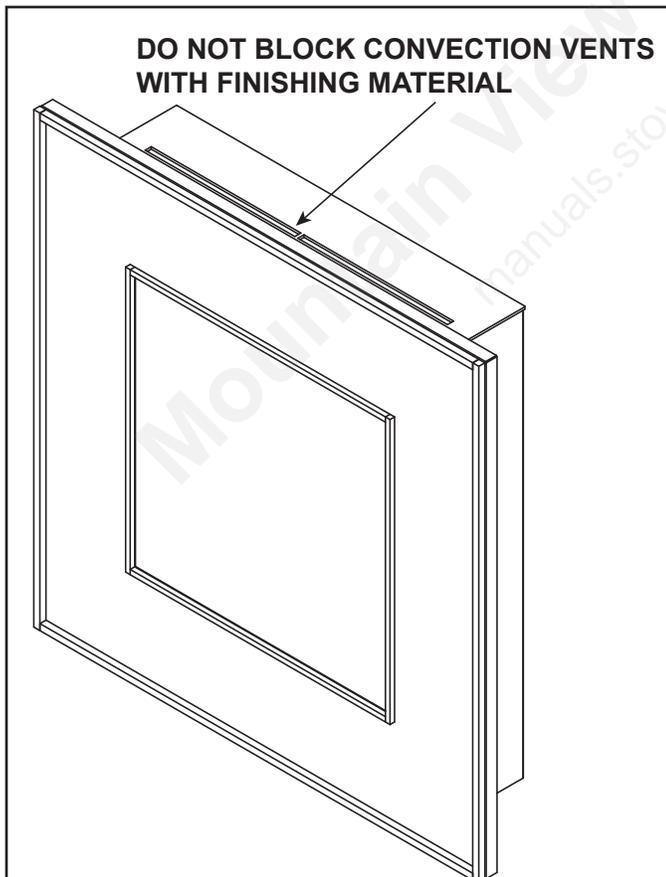
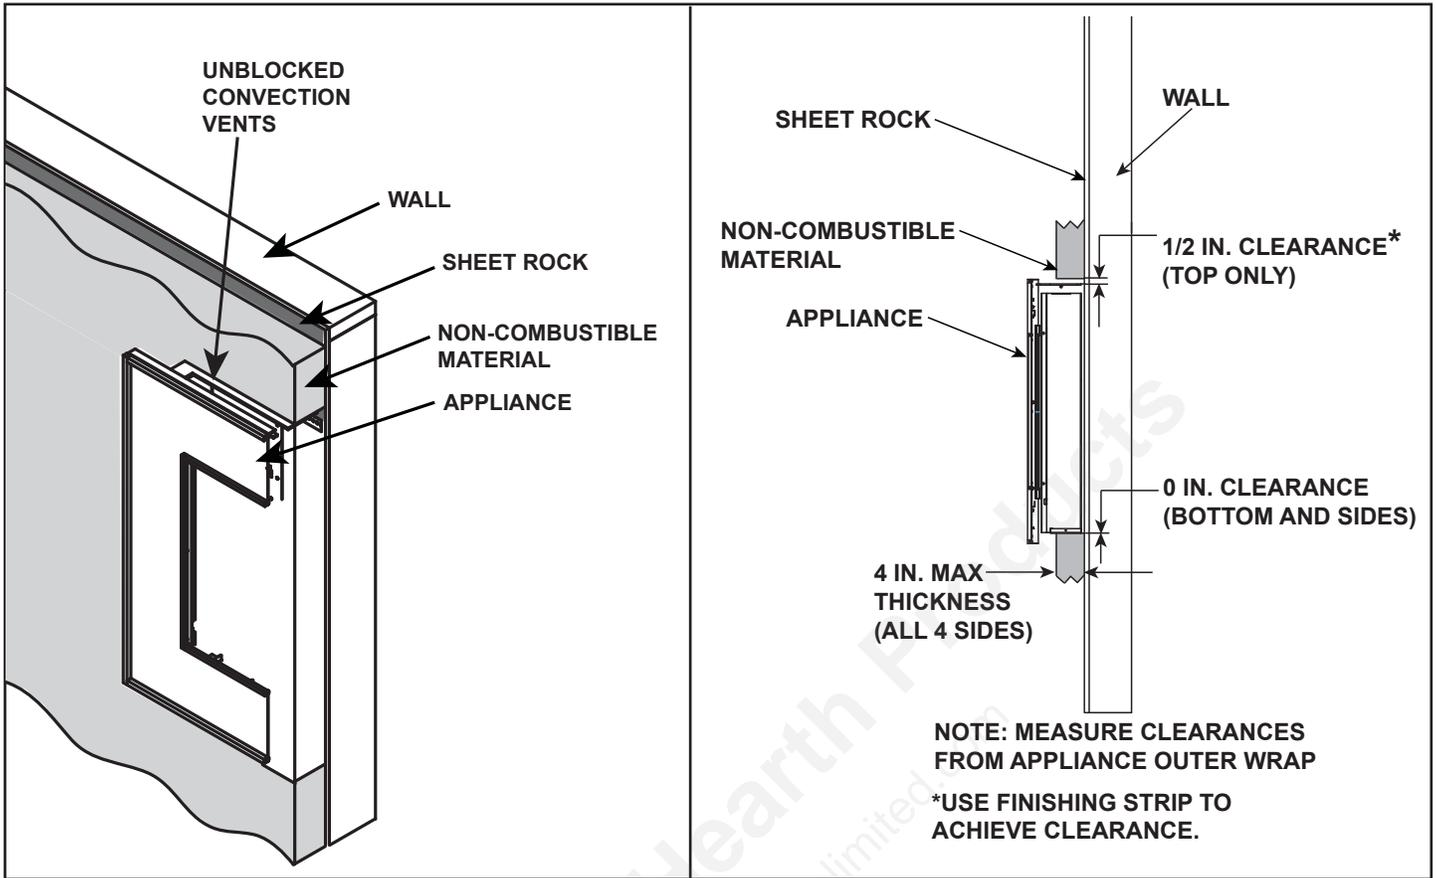

Figure 10.1 Convection Vent Location
Figure 10.3 Non-Combustible Facing Diagram
- Facing and/or finishing materials must not interfere with convection vents, operation of doors, or access for service. See Figure 10.1 and Figure 10.3.